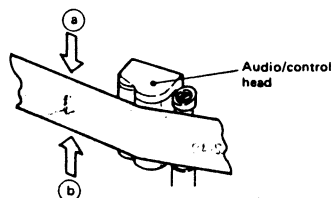

Fig. 2-47 Audio head height check
- Check that the audio CH-1 (LEFT) output level increase does not exceed 0.5 dB as the tape is lightly pressed down point (a) as shown in Fig. 2-47.